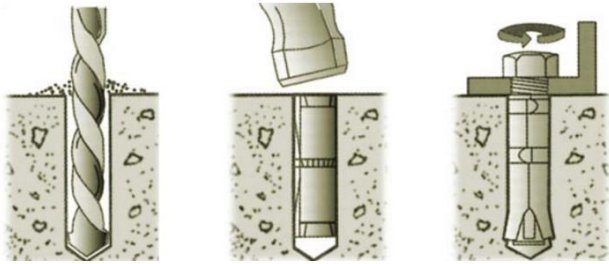
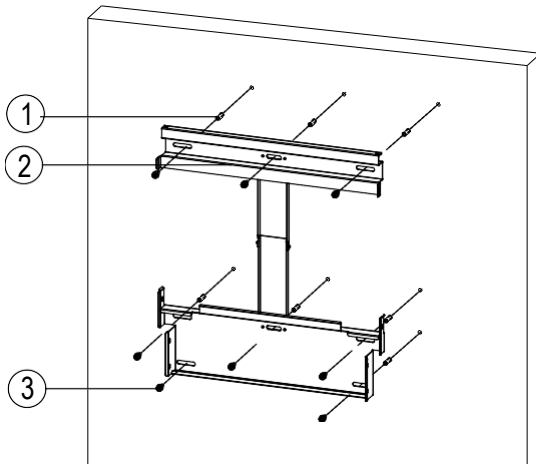

Figure 3-7 Drill holes, set Anchors, and tighten Assembly Bolts
Figure 3-8 Secure the Mounting Bracket
- (b) Concrete Wall Mount: Drill holes at the marked positions with a 0.4in. (10mm) masonry bit and insert **M8 Expansion Anchors** into the holes (expansion anchors not provided); Fasten the **Mounting Bracket** with the **M8x25 Assembling Bolts** (not supplied). Figure 3-7 and Figure 3-8. Tools Required: Electric drill (Φ 10mm/0.4in. masonry bit), No. 13 wrench